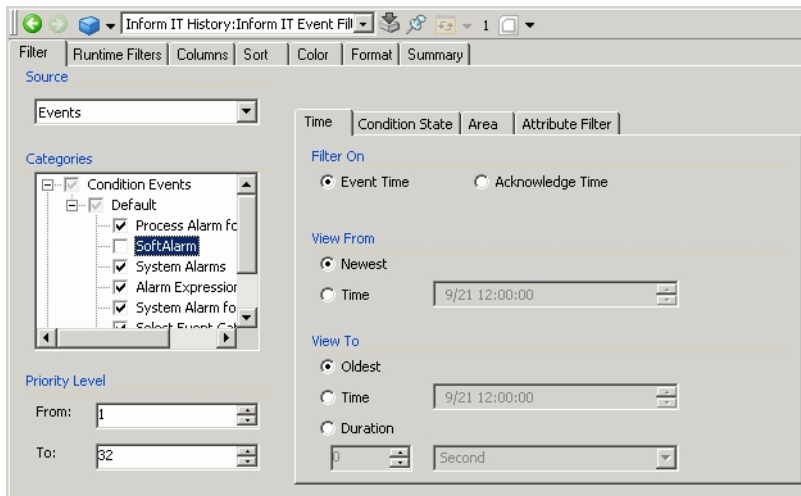

Figure 105. Inform IT Event Filter Aspect
- In the **Filter** Tab, under **Categories** section, exclude one or more Category by selecting all and then clear the Category to be filtered as shown in Figure 105. In this case, **SoftAlarm** is being excluded from the events.